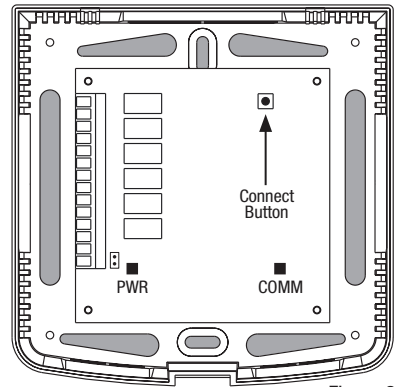

Figure 2
3. On the powered control module, press and hold the **CONNECT** button for 3 seconds (see Figure 2).